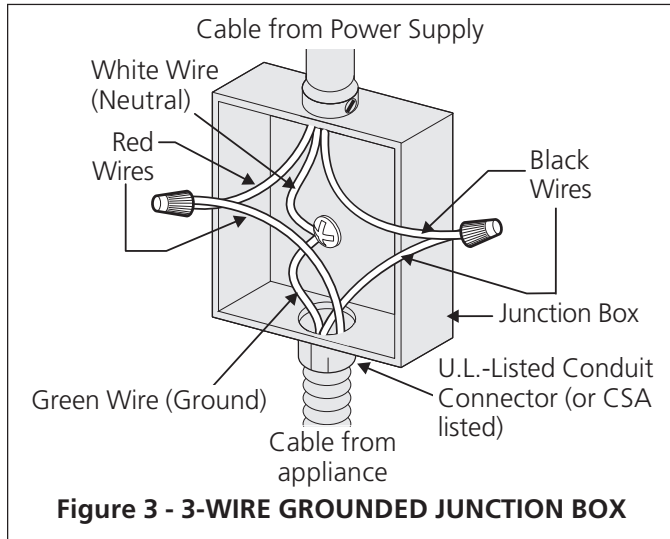

Figure 3 - 3-WIRE GROUNDED JUNCTION BOX
Where local codes permit connecting the appliance-grounding conductor to the neutral (white) wire (see figure 3):
2. In the circuit breaker, fuse box or junction box, connect appliance and power supply cable wires as shown in figure 3.